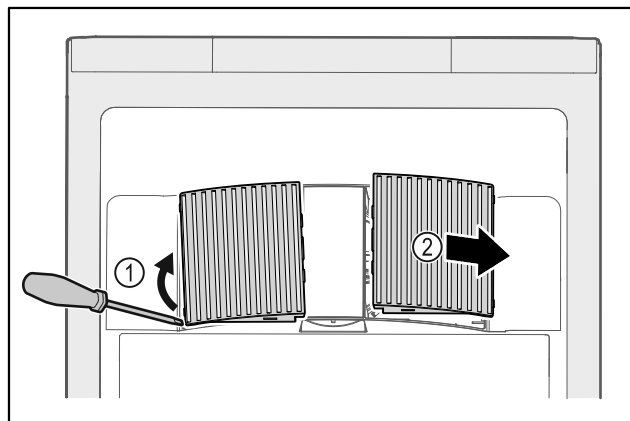

Fig. 47
- ▶ Carefully lever out fan covers from the side Fig. 47 (1) and remove towards the front Fig. 47 (2).